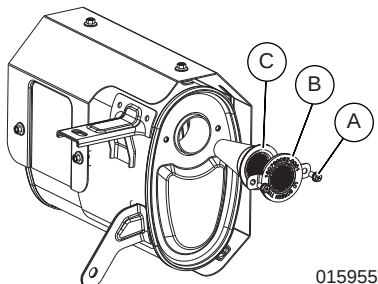

Figure 4-5. Spark Arrester Screen
1. See **Figure 4-5**. Loosen and remove screws (A).
2. Inspect screen (B) and replace if torn, perforated or otherwise damaged. If screen is not damaged, clean with commercial solvent.
3. Replace spark arrester cone (C) and screen (B). Secure with screws.